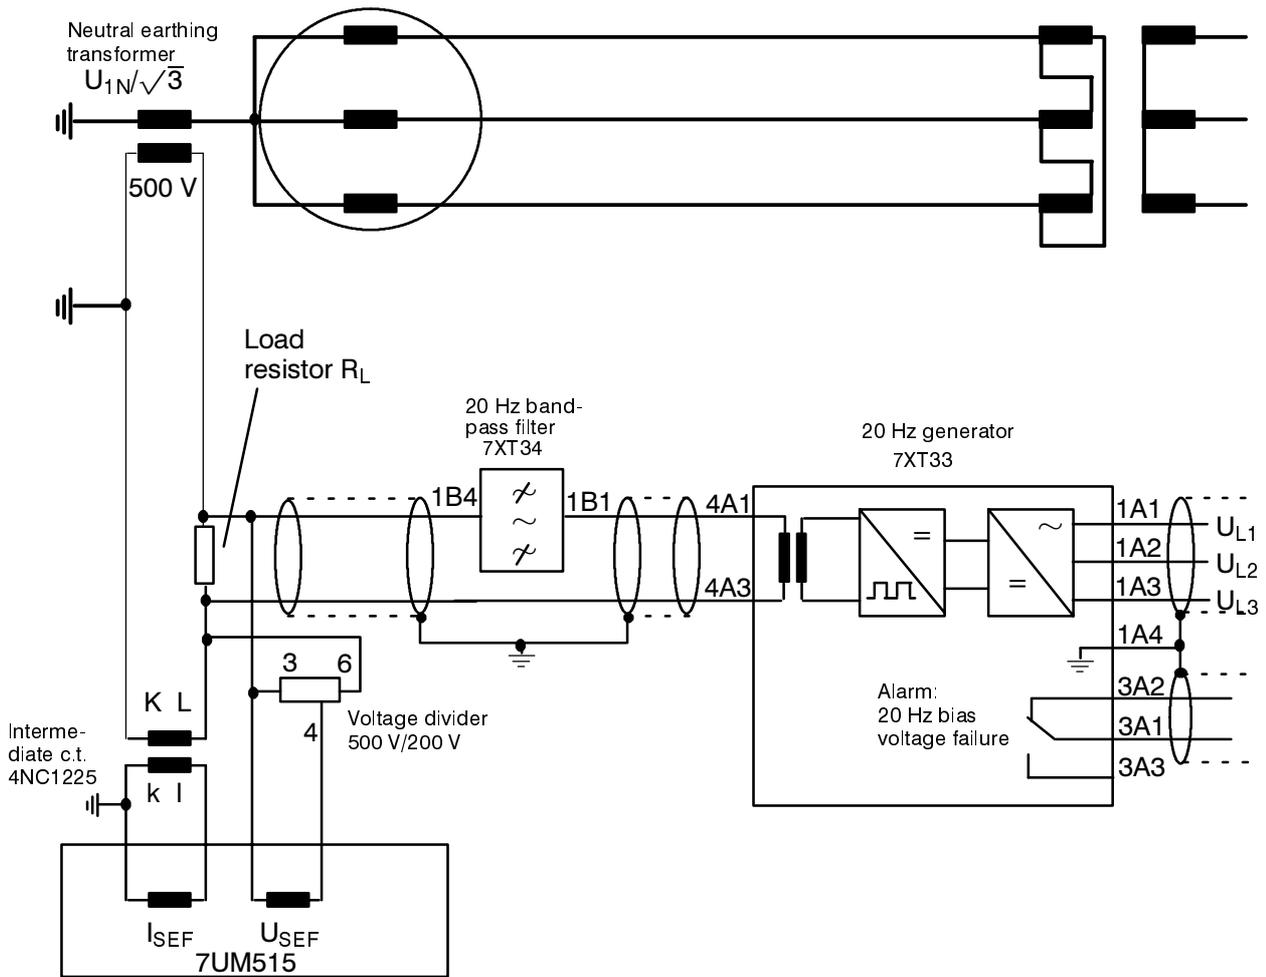

Figure 5.5 Connections for stator earth fault 100 % protection with neutral earthing transformer
In the case of **stator earth fault 100 % protection**, interconnections between 7UM515 and the accessory devices are arranged as in Figure B.1 (Appendix B); Figure 5.5 shows a schematic example.
Since the 20 Hz bias voltage may be superimposed by a high 50 Hz voltage during an earth fault close to the machine terminals, the voltage must be connected to the unit via a voltage divider 500 V/200 V (e.g. 3PP1336–1CZ–013001). A connection example is shown in Figure 5.5.
- Are the connections of the 20 Hz bias voltage circuit for stator earth fault 100 % protection correct and screened (interconnection example Figure 5.5 or B.1)?